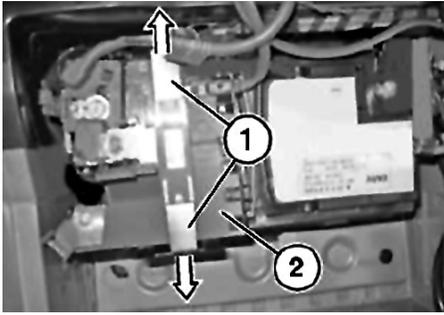

Fig. 2 Power distribution box removal
9. Press locking brackets (1) downward and unclip in direction of arrow as illustrated in, **Fig. 2**. Expand locking bracket (1) using screwdriver and unclip, as required.
10. Remove power distribution box (2) towards top, **Fig. 2**.
6. Install power distribution box and clip locking brackets (1) to secure, **Fig. 2**.